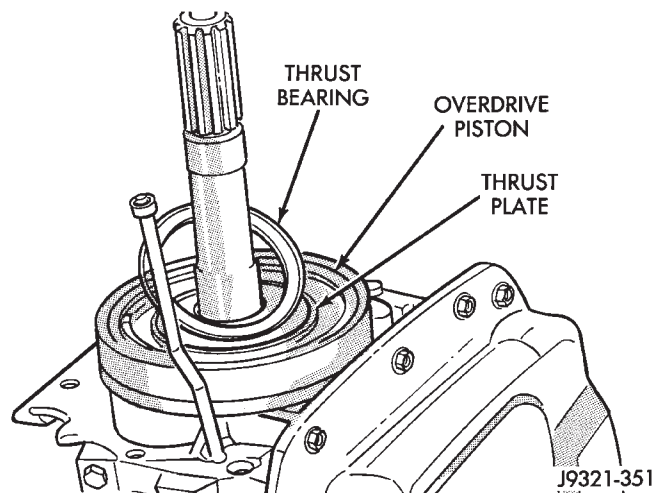

Fig. 183 Overdrive Piston Thrust Bearing Removal/Installation
(2) Remove overdrive piston thrust bearing (Fig. 183).